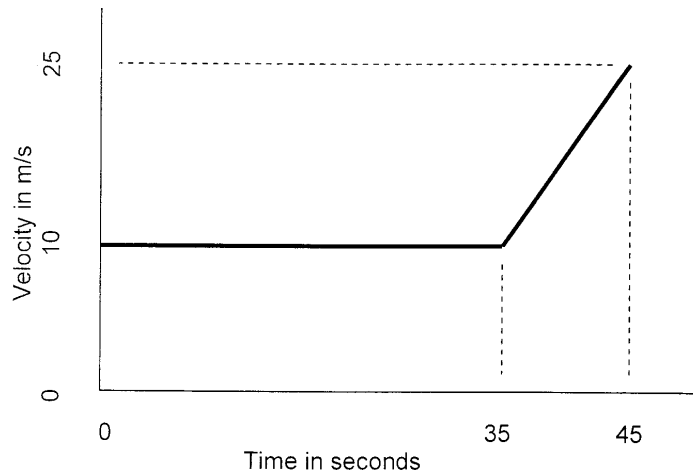

FIGURE 1
2.1 FIGURE 1 below, shows a graph that depicts the velocity of a vehicle with respect to time. Movement takes place in a straight line.